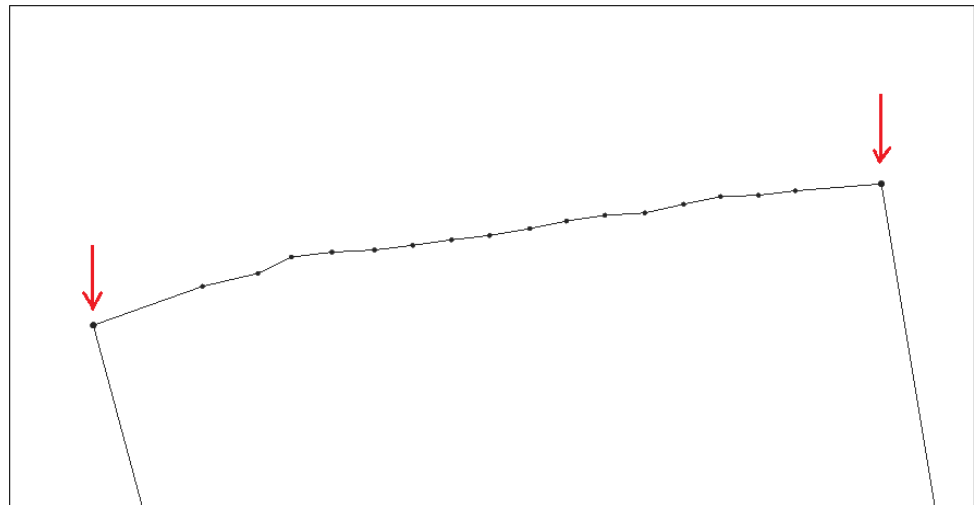

Figure 3 Vertices converted to nodes
10. **Zoom**  into the upper boundary of the coverage as shown in Figure 3.
12. Once selected, right-click and select **Convert to Nodes**. Figure 3 shows the nodes that were created.